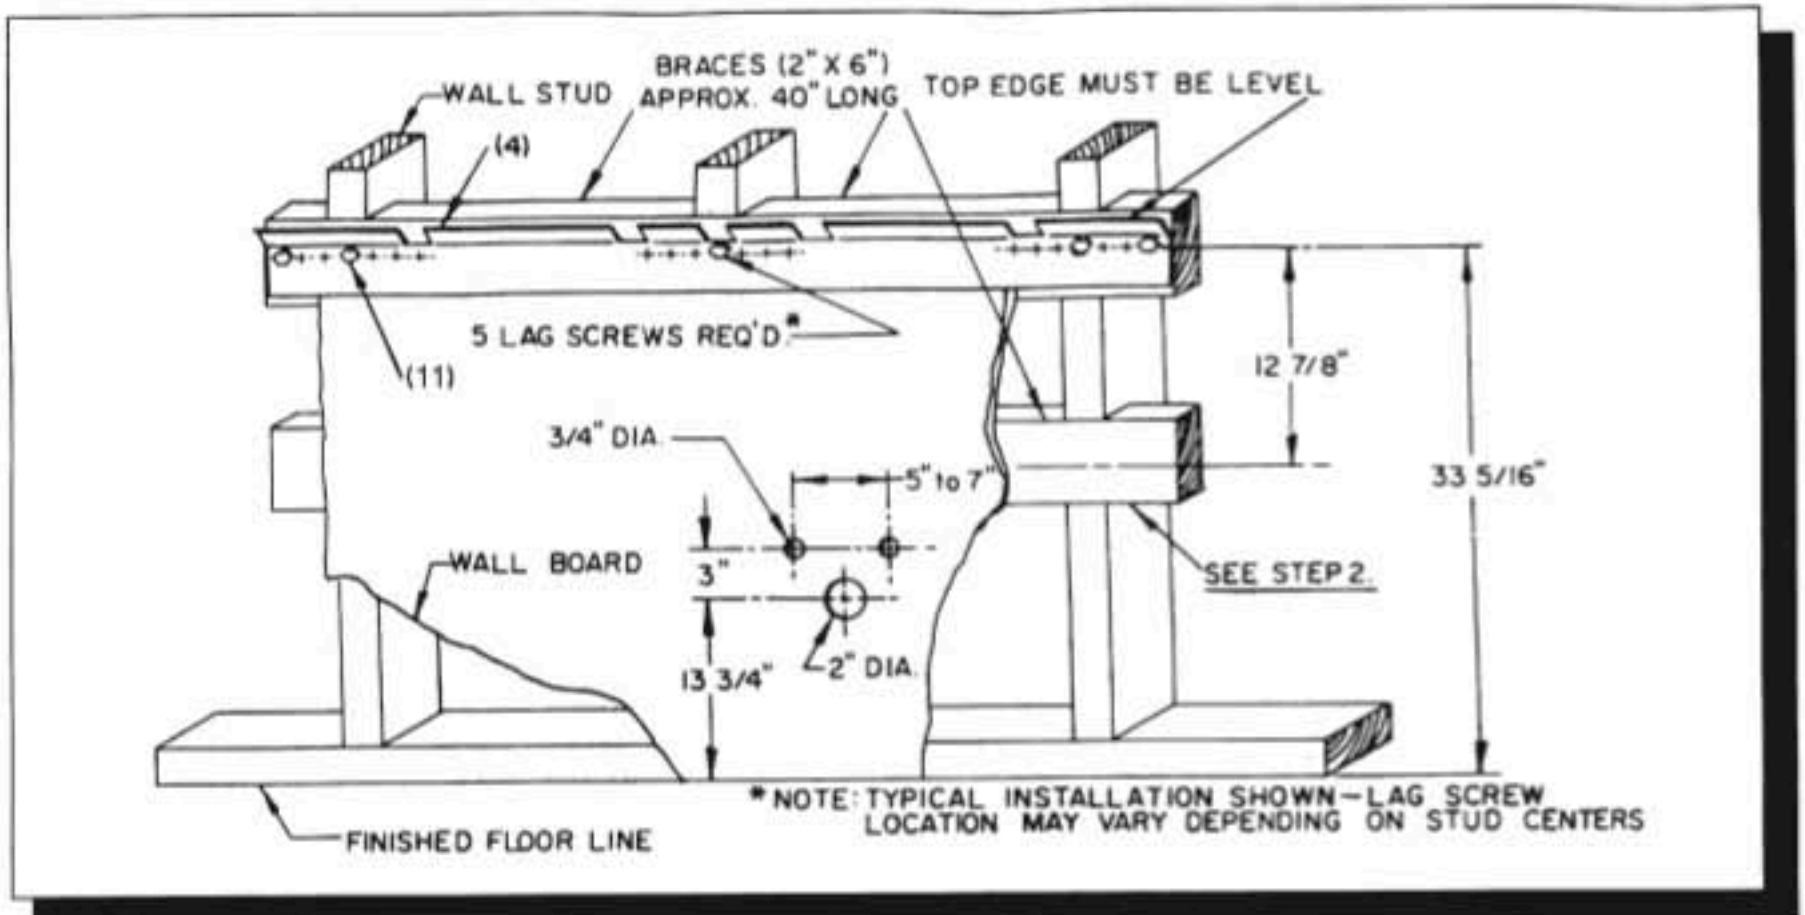

FIGURE 1.
1. Mount Wall Plate (2) at the recommended height shown in Figure 1.
- Place **Laundry Tray** (1) on wall plate, mark location of Molded Side Filler (2) & (3) mounting tab holes. Remove **Laundry Tray** and follow drilling / anchoring procedures as outlined in Step 1. See Figure 1.